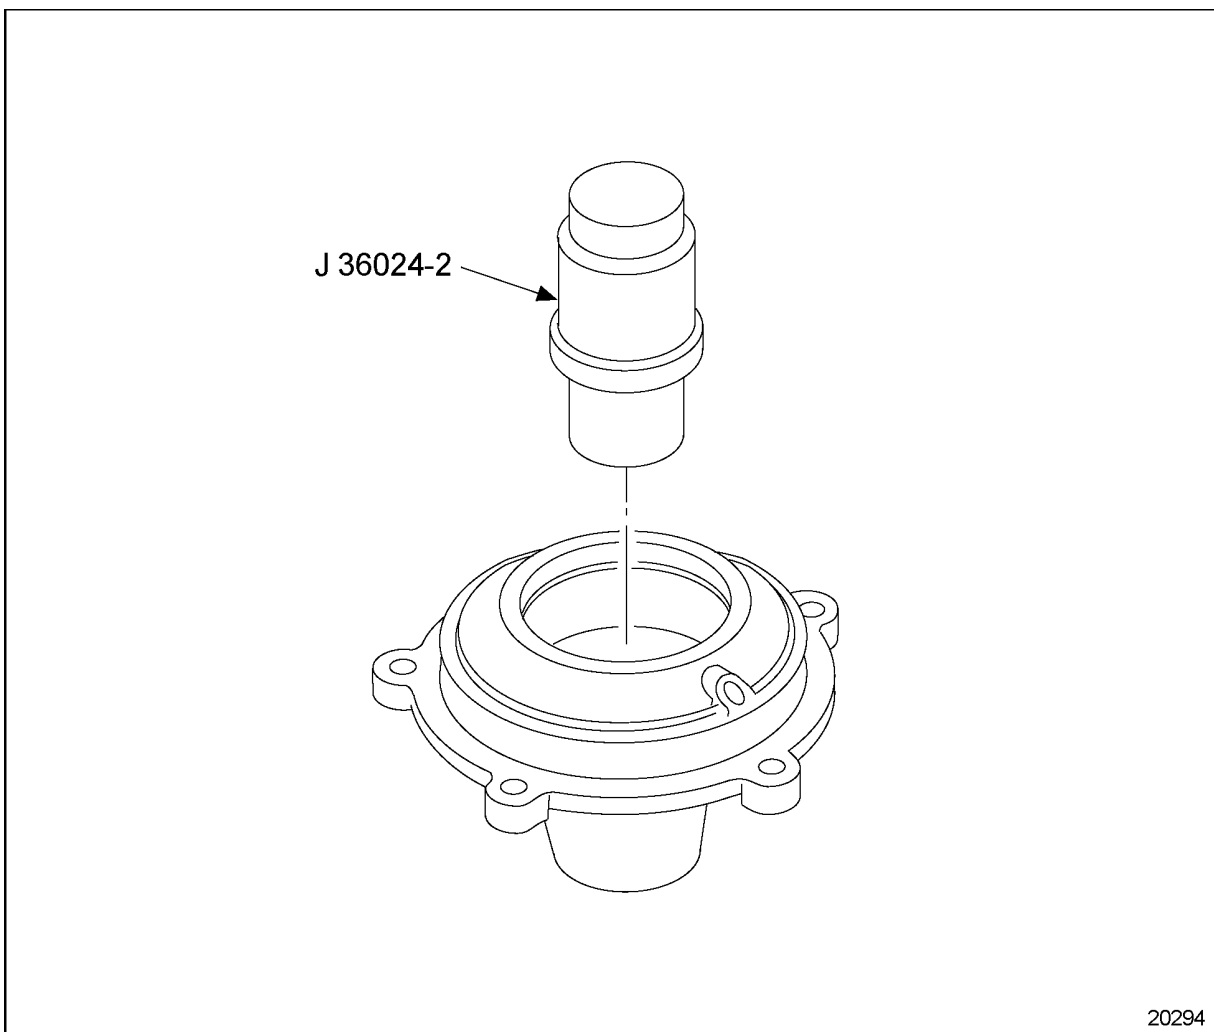

Figure 1-395 Needle Bearing Removal
14. Install needle bearing remover and installer, J 36024-2 part of J 36024-C. See Figure 1-395. Apply pressure to J 36024-2 part of J 36024-C, and remove the needle bearing.